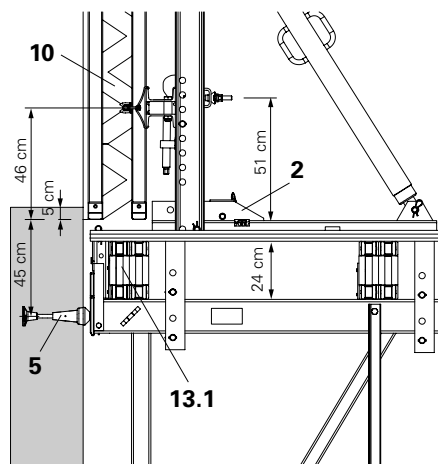

Fig. C1.09.1
Depending on the height of the girder (13.1), position the Carriage (2) higher or lower. (Fig. C1.09.1 + C1.09.2)